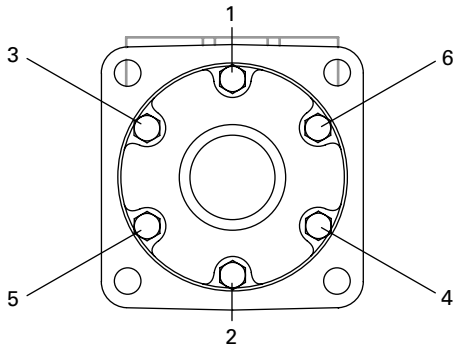

Figure 15
25. Lubricate threads of 6 bolts with a film of light oil. Install and finger tighten all 6 bolts. Torque bolts to 6 Nm [50 lb-in] in sequence (see Figure 15). Then final torque to 34 Nm [300 lb-in], in sequence.